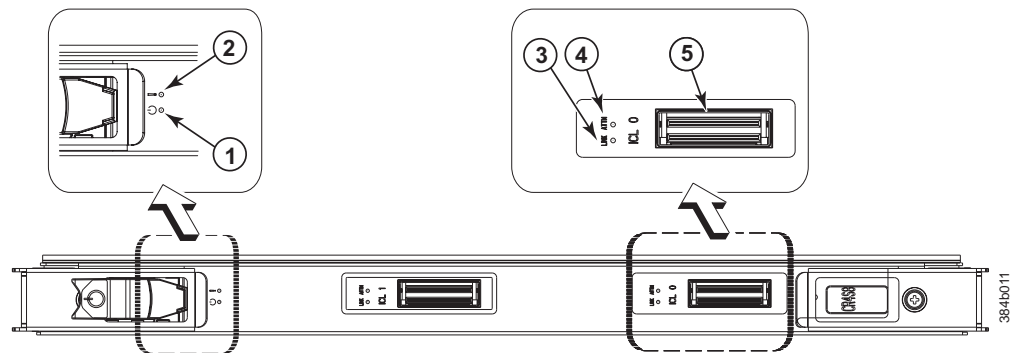

Figure 26. Core switch blade (CR4S-8)
1. Check the LED indicators on the core switch blade (Figure 26). The LED patterns may temporarily change during POST and other diagnostic tests; for information about how to interpret the LED patterns, see Table 12 on page 54.
Figure 26 shows the CR4S-8 core switch blade and its components.